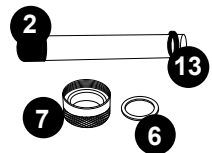

Figure 6
6. Remove the quartz seal compression nut (7) by turning it **counterclockwise**. Figure 3. Use a pair of channel-lock pliers if needed, Figure 5. You will notice that there is a stainless steel compression washer (6) that slides over the quartz tube. Save the washer (6) for later use, Figure 6. There is also a black seal ring (13), grasp the black seal ring; slowly and carefully remove the quartz tube.